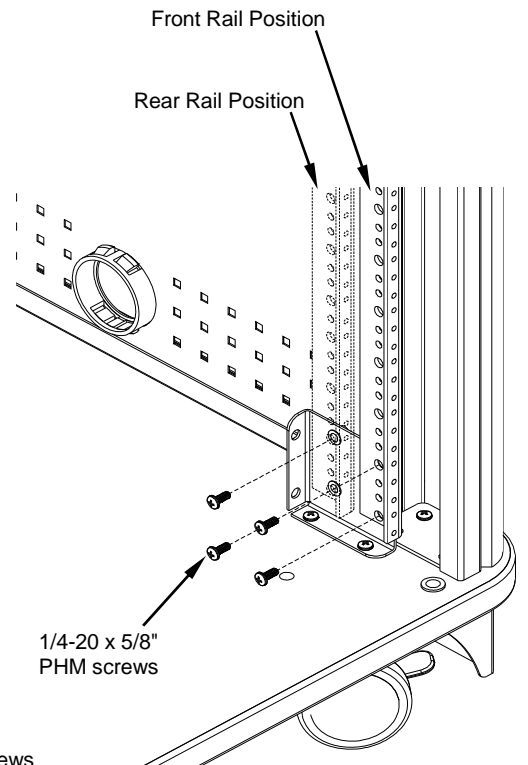

Figure 2
- To move the rack rails to a different mounting position, remove the 1/4-20 x 5/8" PHM screws and re-attach in the new position as shown in **Figure 2**.